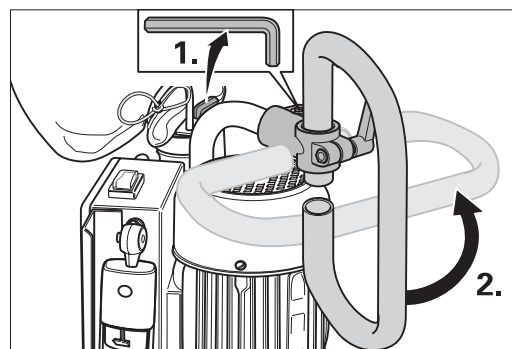

Fig. 18: Undo the screw on the angle clamping connector and rotate the angle clamping connector by 90°.
- 3 Use the enclosed Allen key to undo the screw on the angle clamping connector of the pipe bend and then rotate the angle clamping connector by 90° (Fig. 18).